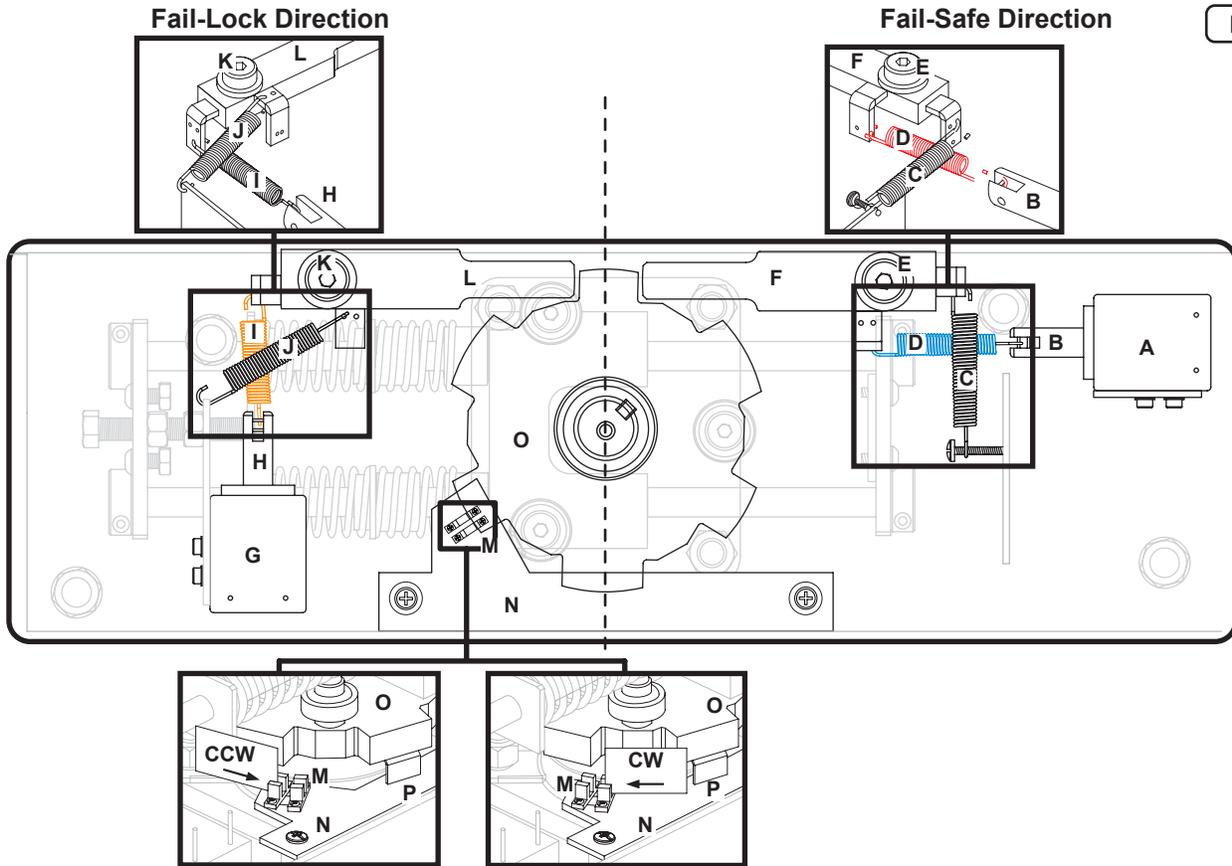

Fig. 32
| Incorrect springs | Verify that the springs on your unit are identical to the springs used in the illustration. | Fig. 32 (C) (D) |
| Springs attached incorrectly | Verify that the springs are attached correctly and in the correct mounting holes. Mounting hole locations on unit should match the locations that are shown in the illustration. | Fig. 32 (C) (D) |
| Solenoid plunger is binding | 1. Check for and remove any debris from the solenoid plunger and cavity area. 2. Use an alcohol-moistened Q-tip to clean the solenoid plunger. Do not use water or lubricate the solenoid plunger. The solenoid is designed for dry operation. | Fig. 32 (A) (B) |
| Incorrect springs | Verify that the springs on your unit are identical to the springs used in the illustration. | Fig. 32 (I) (J) |
| Springs attached incorrectly | Verify that the springs are attached correctly and in the correct mounting holes. Mounting hole locations on unit should match the locations that are shown in the illustration. | Fig. 32 (I) (J) |
| Solenoid plunger is binding | 1. Check for and remove any debris from the solenoid plunger and cavity area. 2. Use an alcohol-moistened Q-tip to clean the solenoid plunger. Do not use water or lubricate the solenoid plunger. The solenoid is designed for dry operation. | Fig. 32 (B) (H) |
| Optical sensors are dirty | Use an alcohol-moistened Q-tip to clean the optical sensor(s) and retest. | Fig. 32 (M) |
| Optical sensors misaligned | Verify that cam flag passes freely through the optical sensor assembly. | Fig. 32 (P) |
| Optical sensors are installed incorrectly | A. Press SW6 and swipe a business card clockwise through the optical sensors. B. The green LED on the control board should turn OFF, and the unit should re-lock. If the unit re-locks, then optical sensors are installed correctly. C. If the unit does not re-lock, press SW6 again and swipe a business card counterclockwise through the optical sensors. D. If the green LED on the control board turns OFF, and the unit re-locks, then the optical sensors are installed incorrectly. E. Using a Phillips head screwdriver, remove the optical sensors from the optical sensor mounting plate and switch the mounting positions. Repeat step A. NOTE: The business card must pass through both optical sensors for a correct reading. | Fig. 29, Fig. 32 (M) Fig. 29 (F) Fig. 32 (M) (N) |
| Springs attached incorrectly | Verify that the springs are attached correctly and in the correct mounting holes. Mounting hole locations on unit should match the locations that are shown in the illustration. | Fig. 32 (I) (J) and/or Fig. 32 (C) (D) |
| Solenoid plunger is binding | 1. Check for and remove any debris from the solenoid plunger and cavity area. 2. Use an alcohol-moistened Q-tip to clean the solenoid plunger. Do not use water or lubricate the solenoid plunger. The solenoid is designed for dry operation. | Fig. 32 (A) (B) and/or Fig. 32 (G) (H) |
| Springs attached incorrectly | Verify that the springs are attached correctly and in the correct mounting holes. | Fig. 32 (C) (D) |
| Optical sensors are installed incorrectly | <ol style="list-style-type: none"> A. Press SW7 and swipe a business card counterclockwise through the optical sensors. B. The green LED on the control board should turn OFF, and the unit should re-lock. If the unit re-locks, then optical sensors are installed correctly. C. If the unit does not re-lock, press SW7 again and swipe a business card clockwise through the optical sensors. D. If the green LED on the control board turns OFF, and the unit re-locks, then the optical sensors are installed incorrectly. E. Using a Phillips head screwdriver, remove the optical sensors from the optical sensor mounting plate and switch the mounting positions. Repeat step A. <p>NOTE: The business card must pass through both optical sensors for a correct reading.</p> | Fig. 29, Fig. 32 (M) Fig. 29 (F) Fig. 32 (M) (N) |